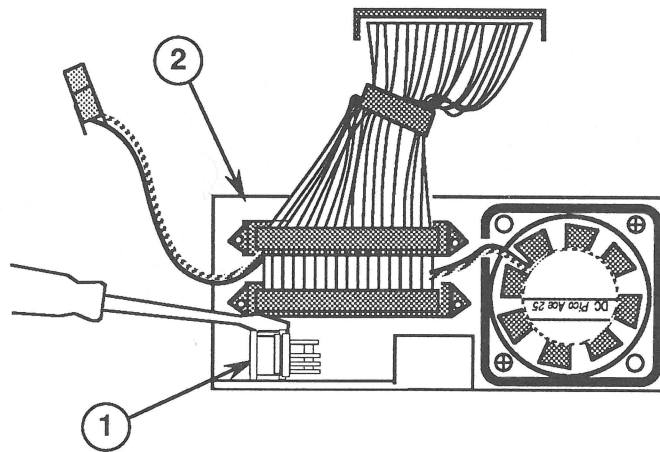

FIGURE 23
3. Remove the switch (Figure 23, #1) by pushing it through the fan frame (Figure 23, #2) from the inside to the outside. To do this, push down on the switch and simultaneously depress the two plastic tabs—first on one side of the switch and then on the other. Use a jeweler's screwdriver to depress both tabs at the same time.